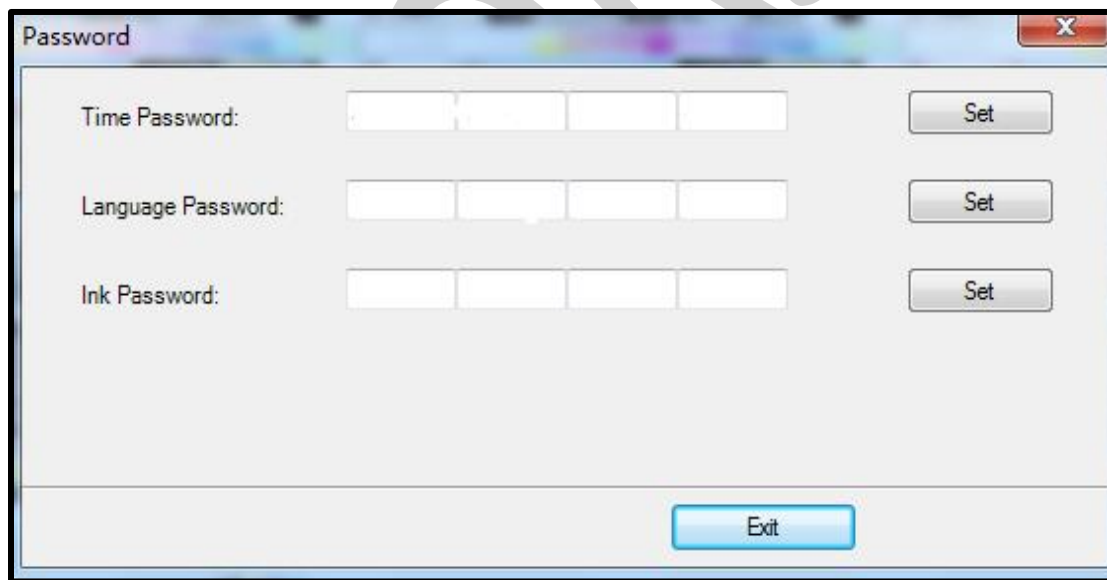

Fig 44: The Password Window
**Step 2:** Set values in the **Time Password** fields as per the requirements (Refer to Fig 44).
**Step 3:** After feeding the passwords, click on the **Set** button in front of both the options (Refer to Fig 44).
**Step 4:** Click on the **Exit** button to close the **Password** window (Refer to Fig 44).